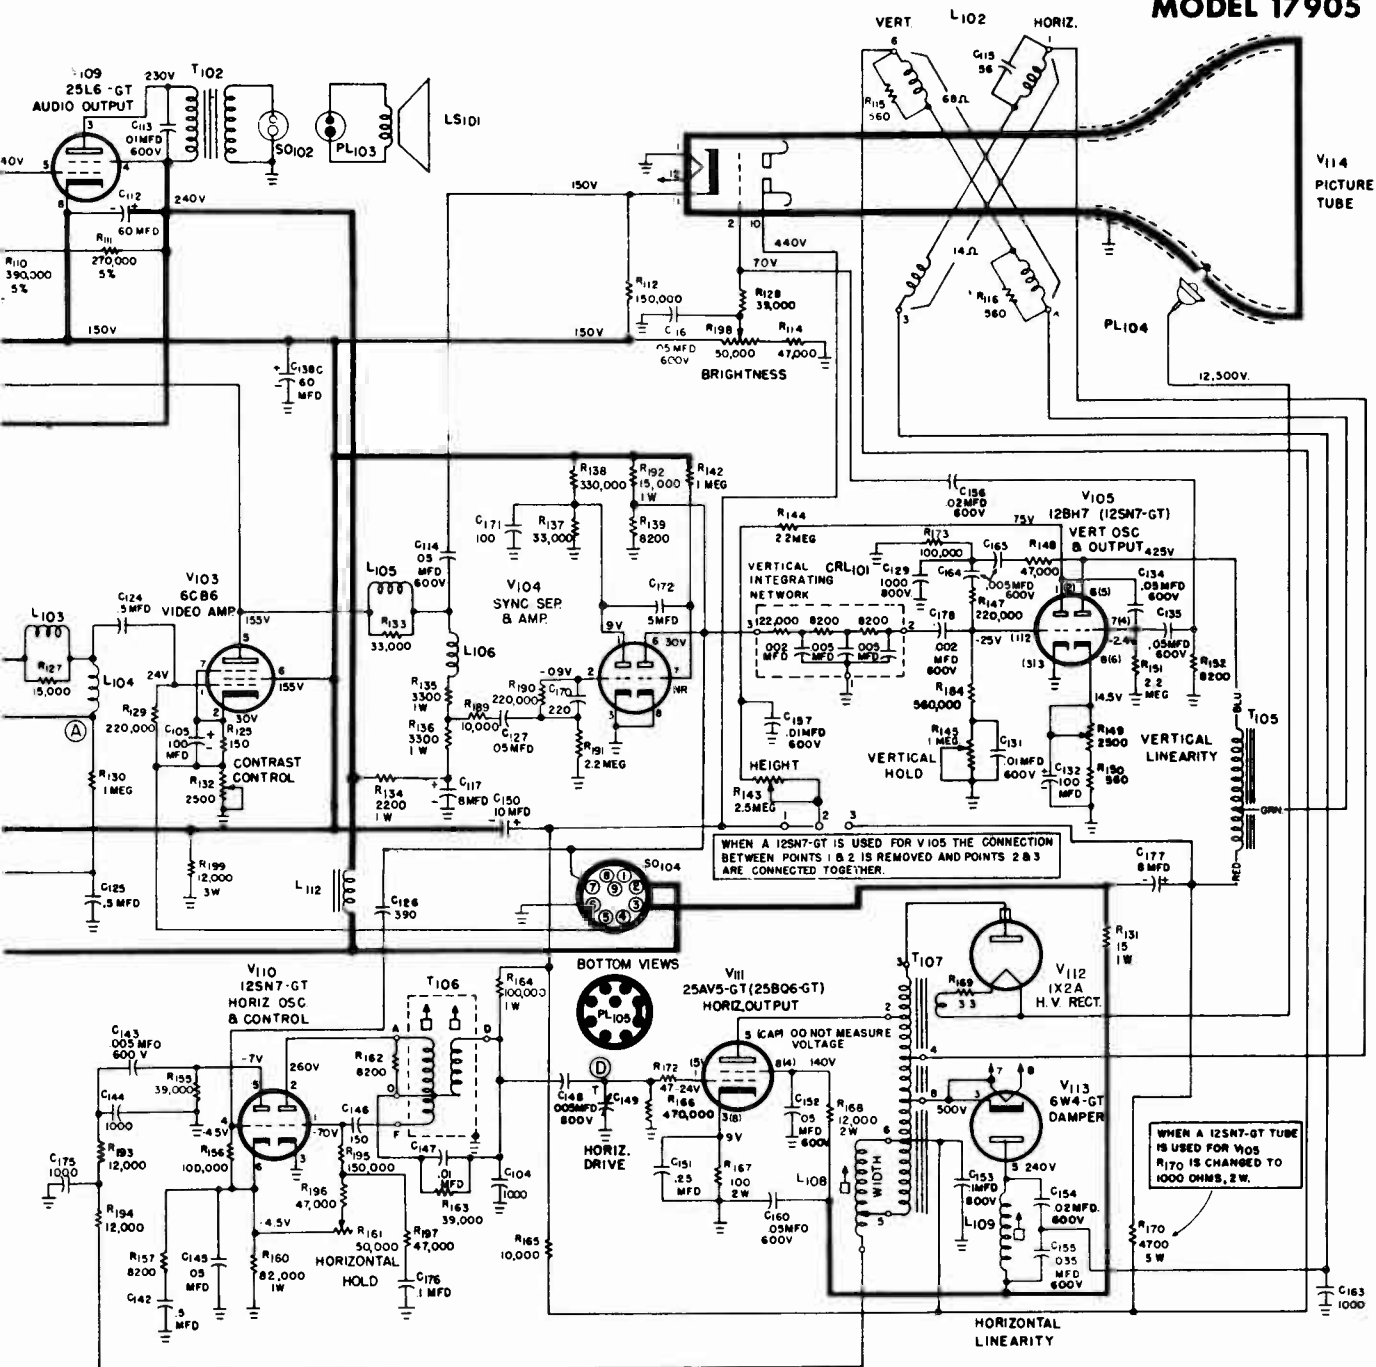

FIG. 6. SCHEMATIC DIAGRAM
5. Connect a V.T.V.M. to test point **(D)** (See Fig. 6) and adjust the HORIZONTAL DRIVE capacitor (See Fig. 1) for a -22.5 to a -25 volt reading.